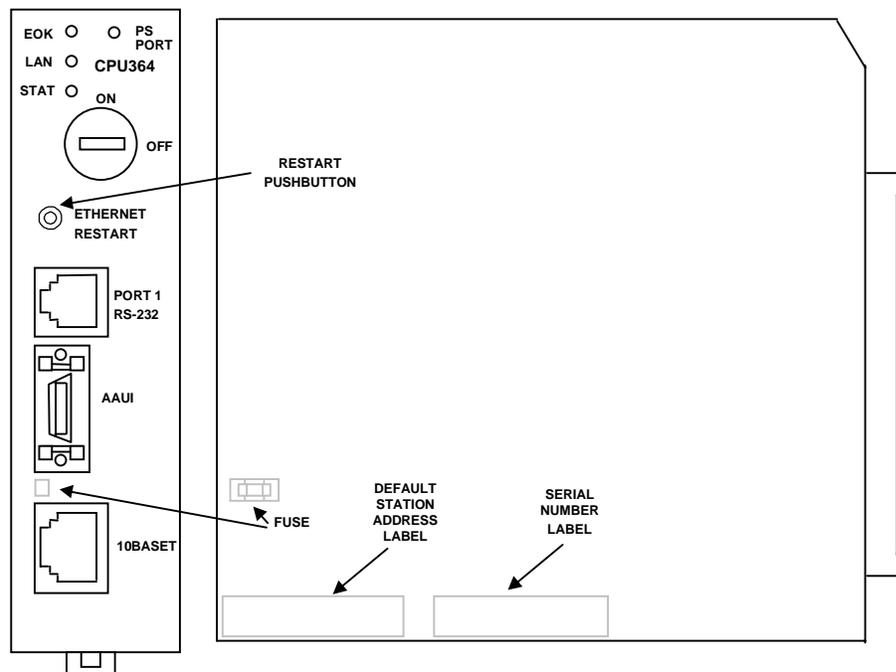

Figure 2-3. Series 90-30 CPU364
3. Remove the front shroud. The CPU364 is a two-board module, the fuse is located between the AAUI port and the 10BaseT port. See Figure 2-3.